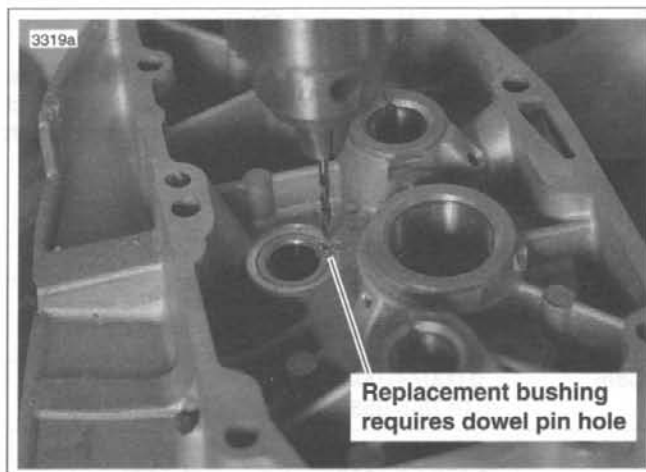

Figure 3-72. Drilling Dowel Pin Hole
2. Although the original pinion shaft bushing is not "pinned," the replacement bushing must be secured, from possible rotation within the cover bore, by installation of a dowel pin. See Figure 3-72. Drill a No. 31 hole, 0.281 in. (7.137 mm) deep, at top side of boss (side toward top of gearcase cover), centering the drill bit on the cover bore circle (hole is drilled half in bushing OD and half in cover bore ID).